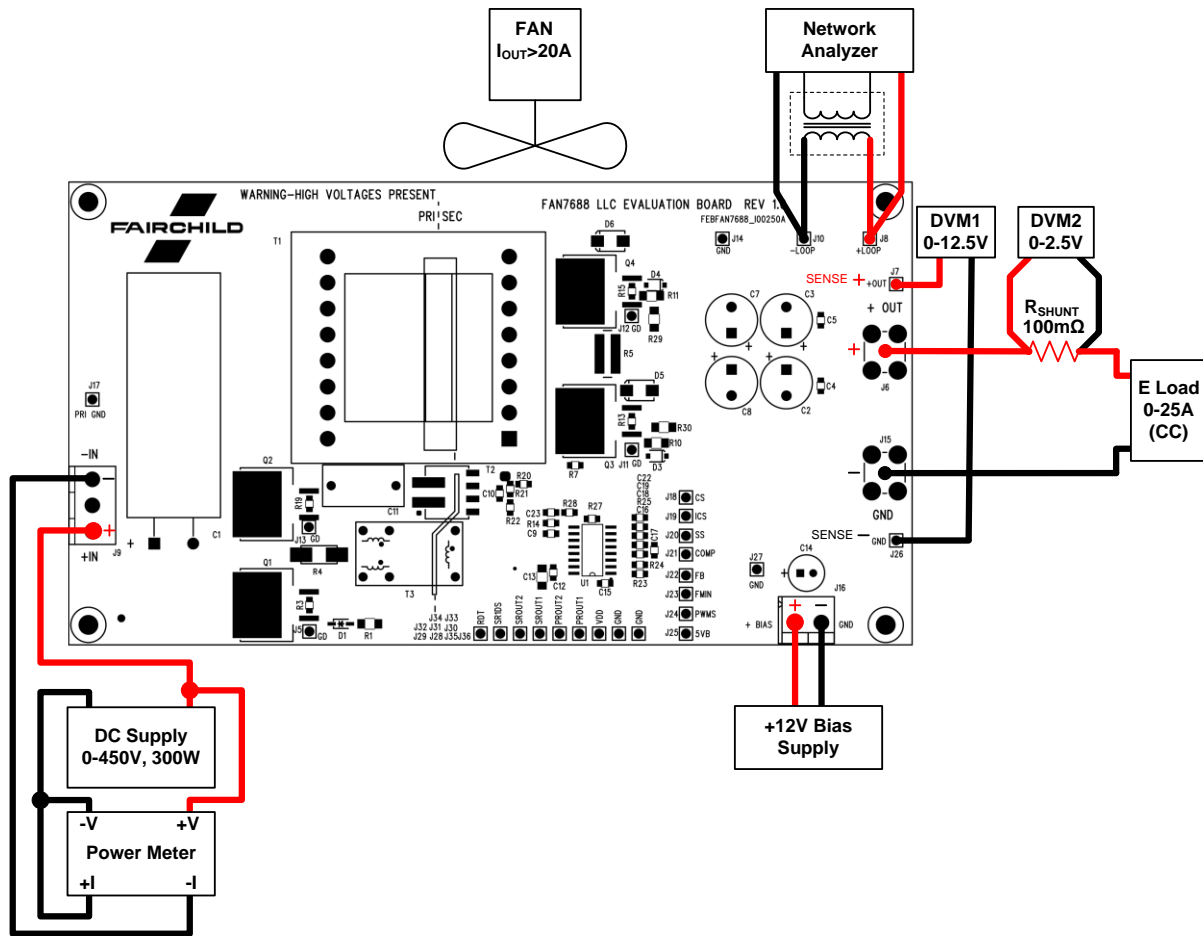

Figure 5. Recommended EVB Test Configuration
Before applying power to the FEBFAN7688\_I00250A EVB; the DC bias supply voltage, DC source input voltage and DC electronic load should be connected to the board as shown in Figure 5. Optionally a Digital Volt Meter (DVM1) (set to measure DC voltage) can be connected to J7 and J26 to measure the output voltage and a second DVM (DVM2, set to measure  $\leq 2.5 V_{DC}$ ) can be connected across an external current sensing shunt ( $R_{SHUNT}=100\text{ m}\Omega$ ) to measure DC output current. Note that most ammeter settings are limited to  $10 A_{DC}$ . Measuring the DC output current using a direct connection into a DVM ammeter can damage the DVM and/or blow the fuse.
1. Connect an electronic load (12.5 V, 0-30 A) to J6 and J15. Set the electronic load to Constant Current (CC) with an initial setting of 0-1A.
3. As shown in Figure 5, connect a resistive shunt in series with the electronic load + or electronic load -. If efficiency is not being measured, the shunt can be omitted.
All efficiency data shown was taken using the test set up shown in Figure 5.